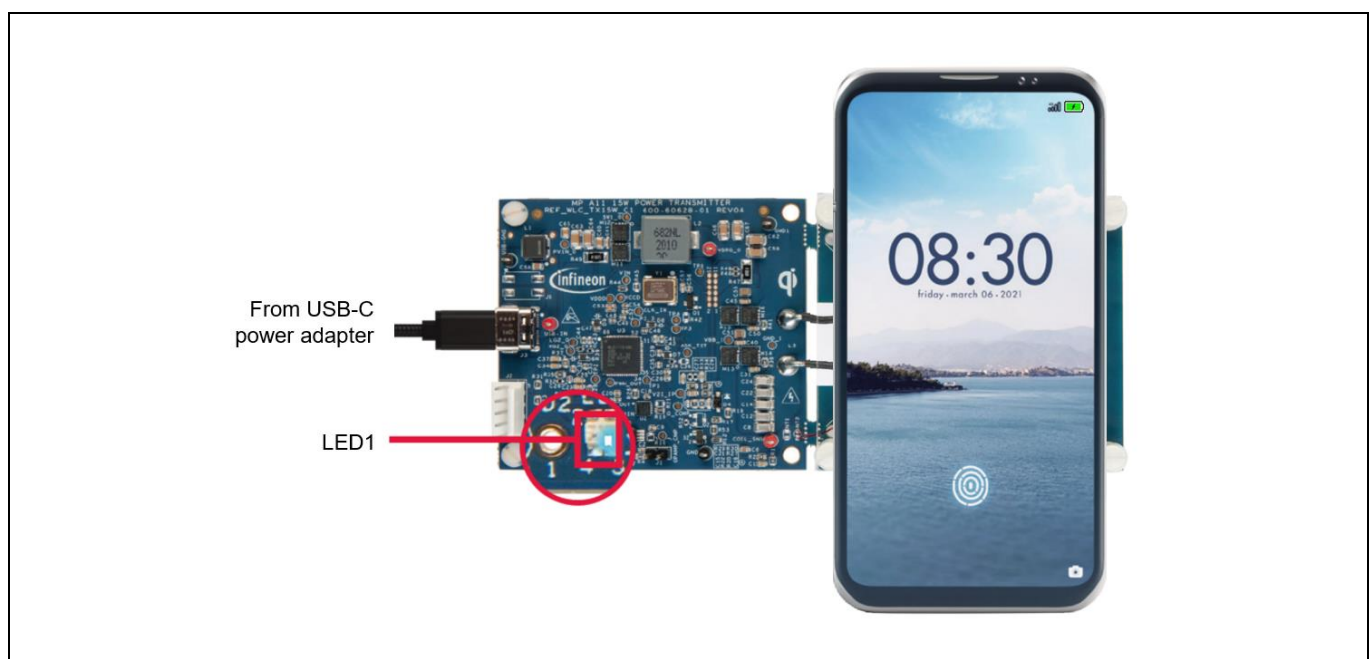

Figure 8 Powering the WLC reference board
3. Place the (phone or receiver) to be charged on the Tx interface surface of the reference board, as shown in Figure 8. The status LED (LED1) glows blue when charging is in progress.